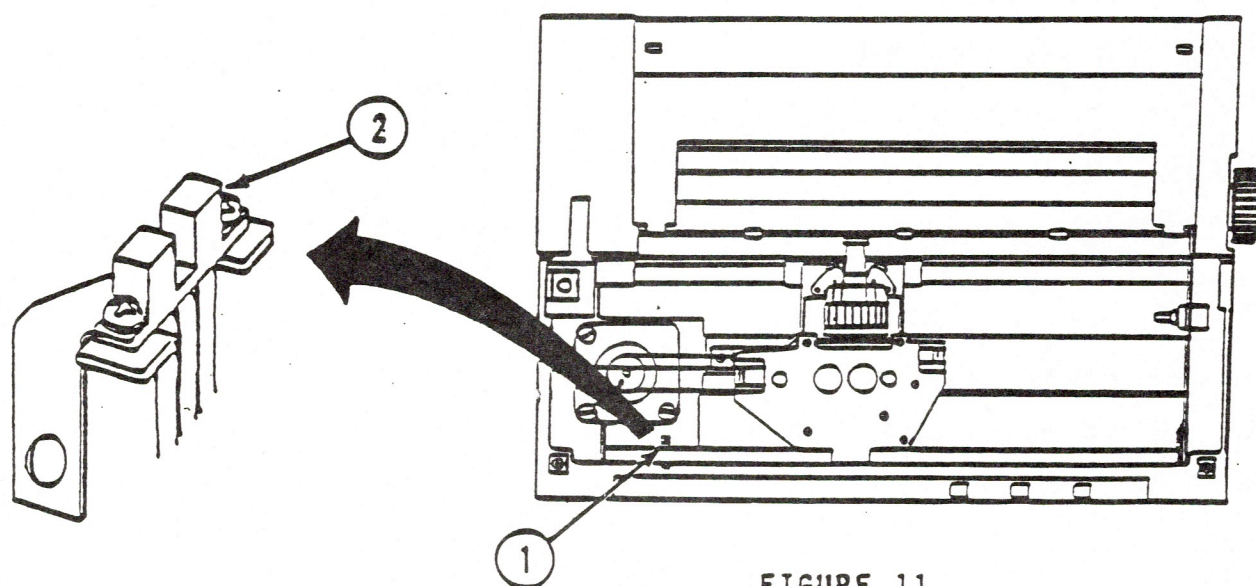

FIGURE 11
6. Find the detector plate. It is on the left front side of the printer, hidden just below the guide rail. (Figure 11, #1.)
7. Using a brush, remove any paper dust. (Figure 11, #2.)